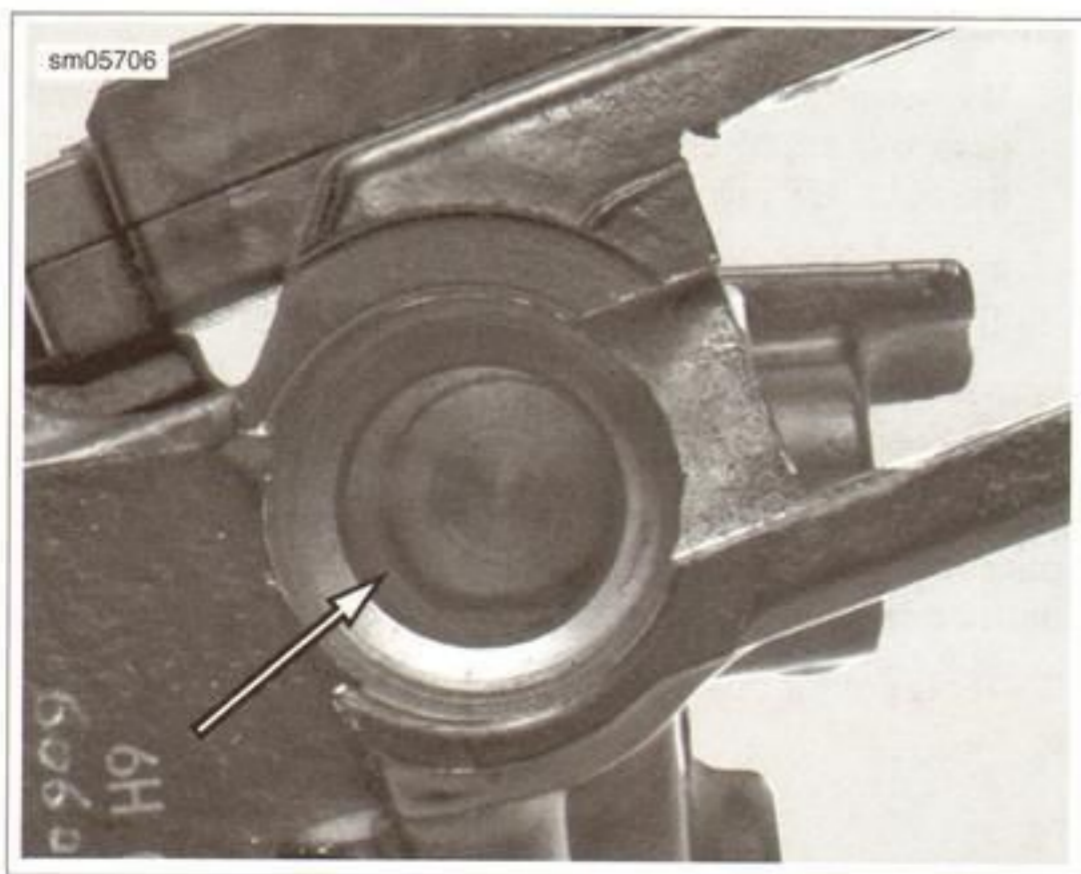

Figure 6-6. Piston Bore and Fluid Passages
3. See Figure 6-6. Blow out fluid passages and piston bore with compressed air.
1. See Figure 6-6. Install clutch master cylinder/reservoir to handlebar with clamp (1) and fasteners (2).
3. If removed, install the clutch interlock switch (3).
- a. Install clutch interlock switch fastener (4).